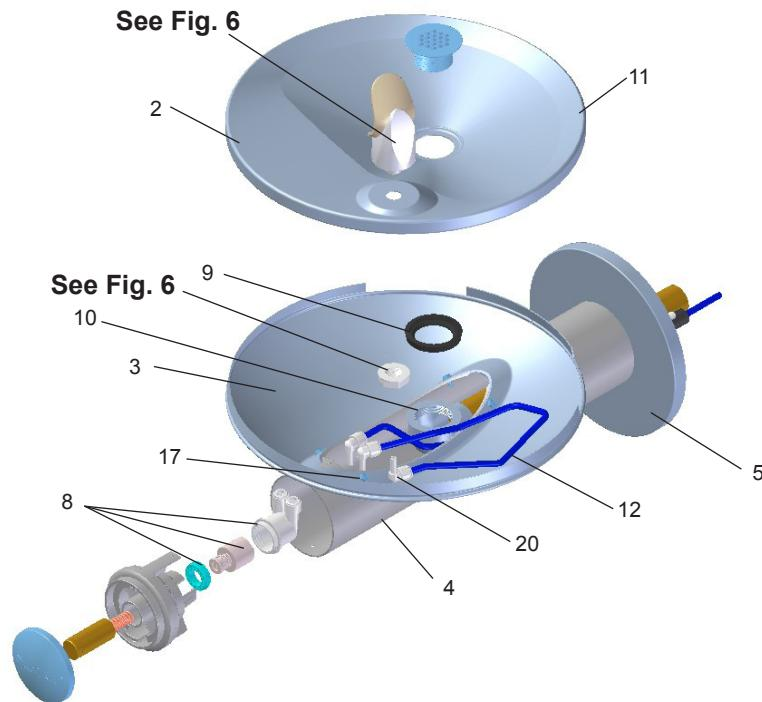

Figure 5 - Fountain Body Assembly
8. Install fountains with (8) 5/16-18 HHMS & (8) 5/16-18 nuts (provided) (Fig. 5). Connect the $\frac{1}{4}$ " water lines from each fountain to the remaining openings on the tee (cut lines to fit as needed). Connect the 3/8 polytube from the bottle filler into the opening on the tee.